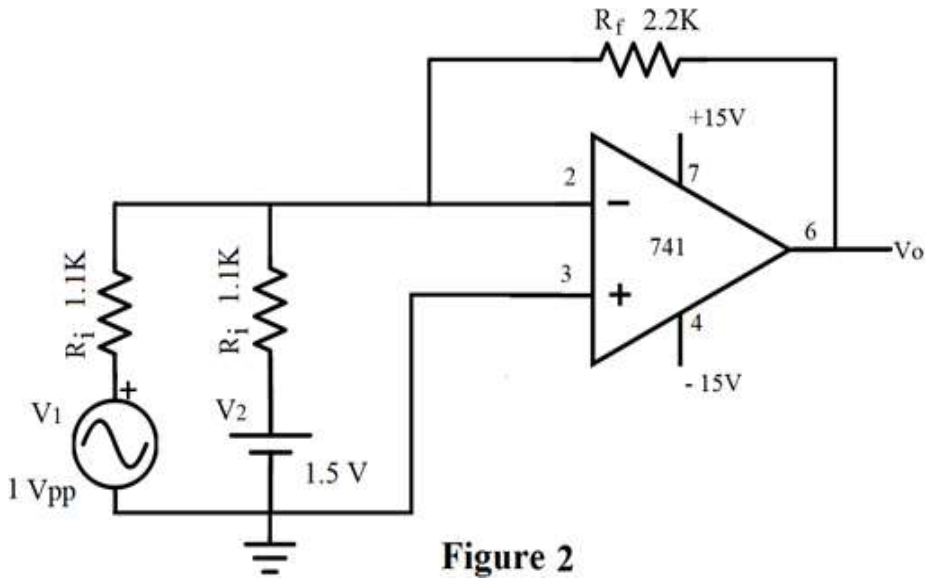

Figure 2
9. Repeat the procedure with $V_1 = 1V_{pp} / 1 \text{ KHz}$ sine wave and $V_2 = +1.5V_{dc}$ as shown in fig2.